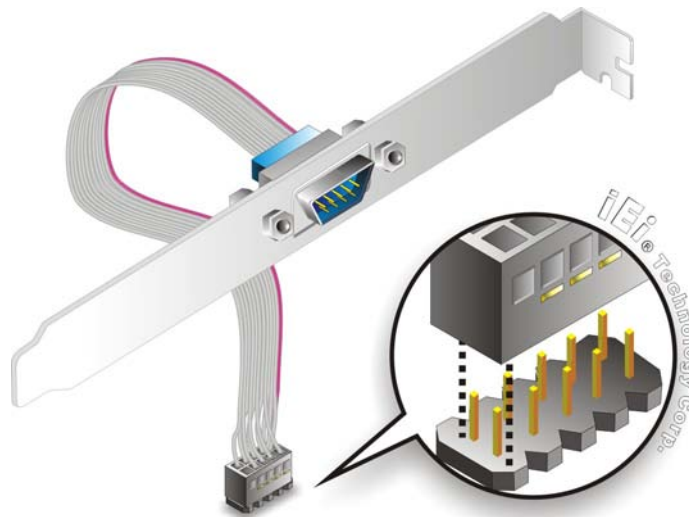

Figure 4-3: Single RS-232 Cable Installation
- Step 2: Insert the cable connector.** Insert the connector into the serial port box header. See **Figure 4-3**. A key on the front of the cable connectors ensures the connector can only be installed in one direction.